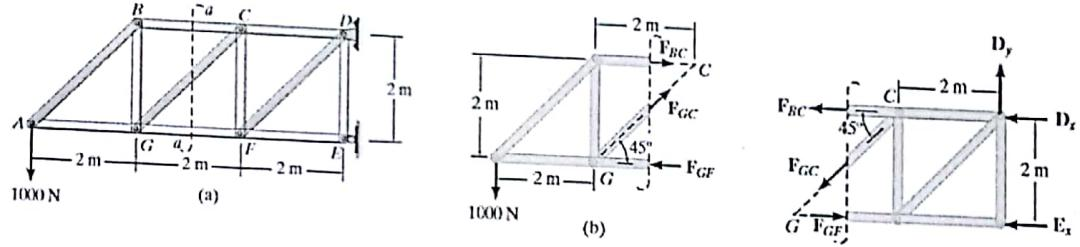

Fig. 4
4. Determine the internal forces in truss members BC, GC and GF, using *Methods of Sections* and state whether it is in tension or compression. (Fig. 4)